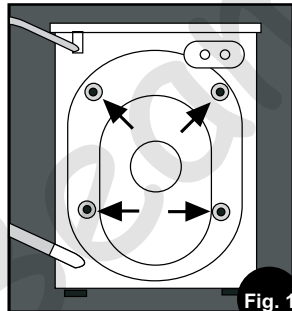

Fig. 1
- After positioning the washer-dryer near the installation location, remove the four screws (Fig. 1), with the rubber grommets and plastic spacers that are attached to them.